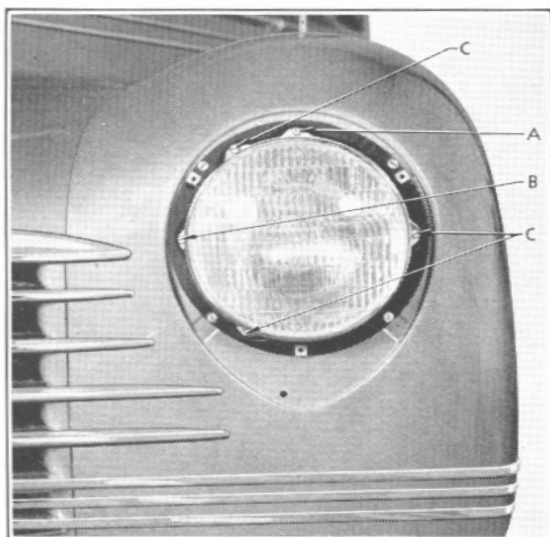

Figure 32
2. Loosen, but do not remove, the three screws (C), Fig. 32, holding the retaining ring. (Do not disturb the aiming screws (A and B) at the top and left side of the unit.)
Independent adjustment of both horizontal and vertical aim is provided in "Sealed Beam" headlamps, with the adjustment screws accessible from the front of the lamp after first removing lens rim. The vertical adjustment screw is shown at (A) and the horizontal adjusting screw at (B), Fig. 32. The light beam is moved to the right or left by tightening or loosening this horizontal adjusting screw (B). The beam may be raised or lowered by turning the vertical adjusting screw (A).